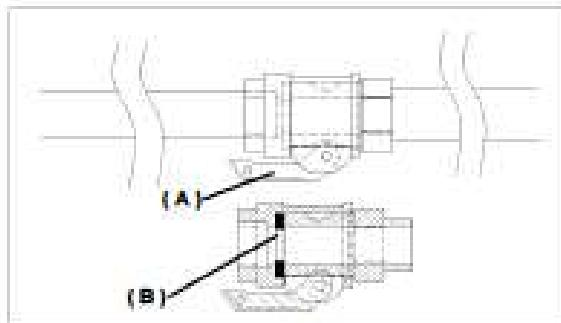

FIG.6a
#### 11. START-UP (see figs. 6a,6)
After positioning the machine, prepare a bucket with a quantity of approx. 10L of grout. Pour the grout into the machine hopper, or, in the case of using colourant products, directly in the machine pipelines before connection. In the latter case, pour approx. 10L of coloured product into the hopper. Check the material hoses to ensure perfect condition, that couplings are intact and the relative seals are fitted, then connect them to the delivery manifold and spray jet. Check that the cam levers (A) of the couplings have been tightened correctly and that the seal (B) is fitted as shown in fig. 6a.